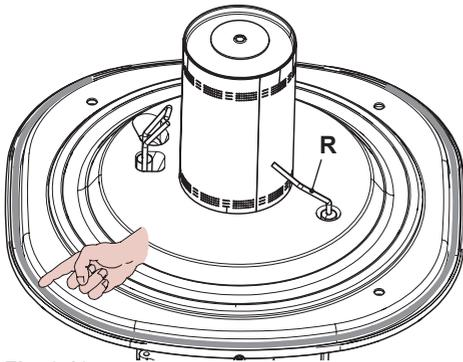

Fig. 9.10
- The detection electrode R in Fig. 9.10 also functions as a sensor for the correct drainage of the condensate. Should the mentioned electrode come into contact with the condensate water present within the combustion chamber it sends the boiler into safety lockout. Therefore, should the insulation be wet or deteriorated, provide for the substitution of the same.
Caution: After any periodical servicing or disturbance the combustion chamber silicon seal Fig. 9.10 must be fully inspected and replaced at the discretion of the service engineer.